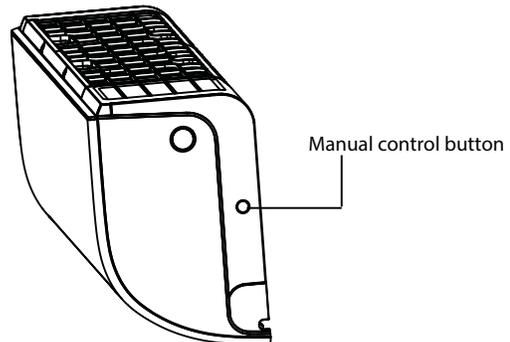

Fig. 34 — Test Operation
Perform a test operation after completing gas leak and electrical safety check (see Fig. 34).
- 1. The **MANUAL CONTROL** button is located on the right-hand side panel of the unit (see Fig. 34). Press the button two times to select the **COOL** function. Perform a Test Run as normal.